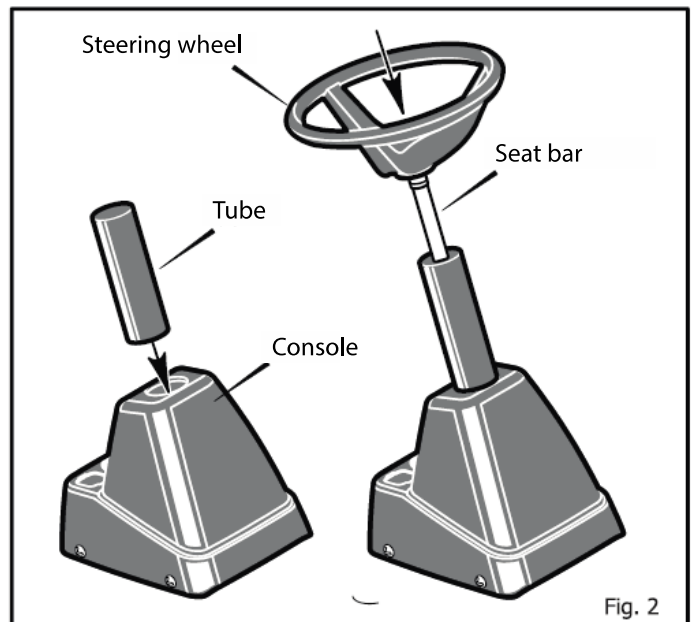

Fig. 2
2. Slide the **tube** in the **console** (Figure 2). Make sure you have that the end of the tube adjusts to the steering ring.